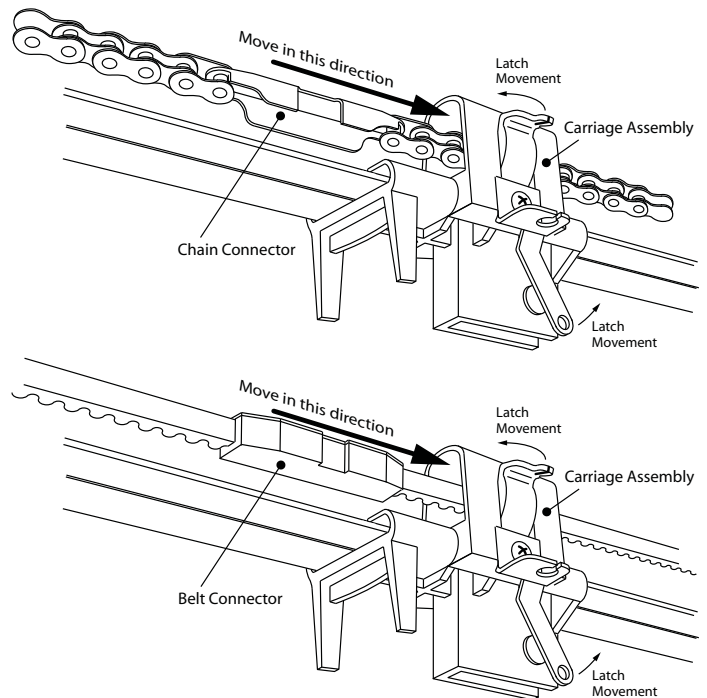

FIG. 6-2 Engage Chain/Belt Connector to Carriage
1. Press and hold the "Close Travel Limit" button until the chain or belt connector advances and engages to the Carriage Assembly (FIG 6-2).